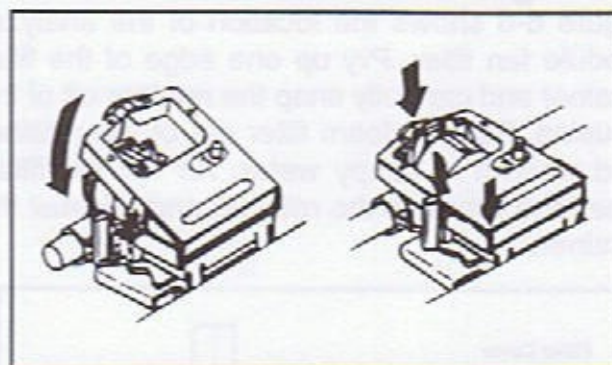

Figure 6-9
2. Lower the ribbon shield over the printhead, aligning the tabs with the inserts on the printhead plate (see Figure 6-9).